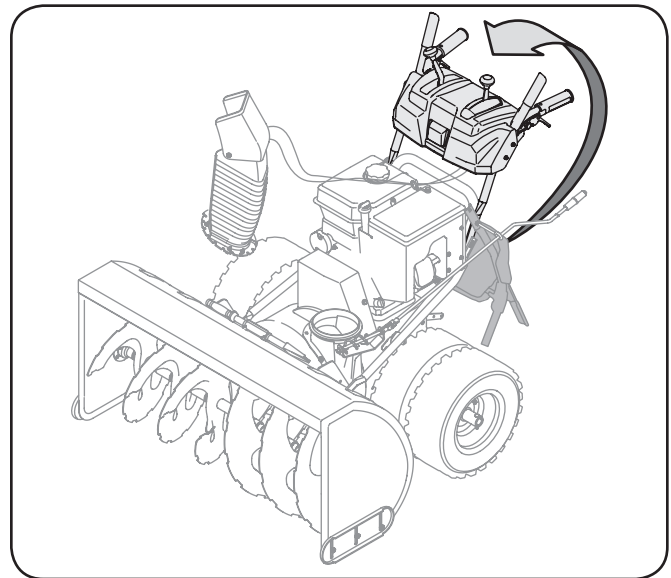

Figure 3-2
3. Raise the upper handle assembly until it snaps over the lower handle. See Figure 3-2.